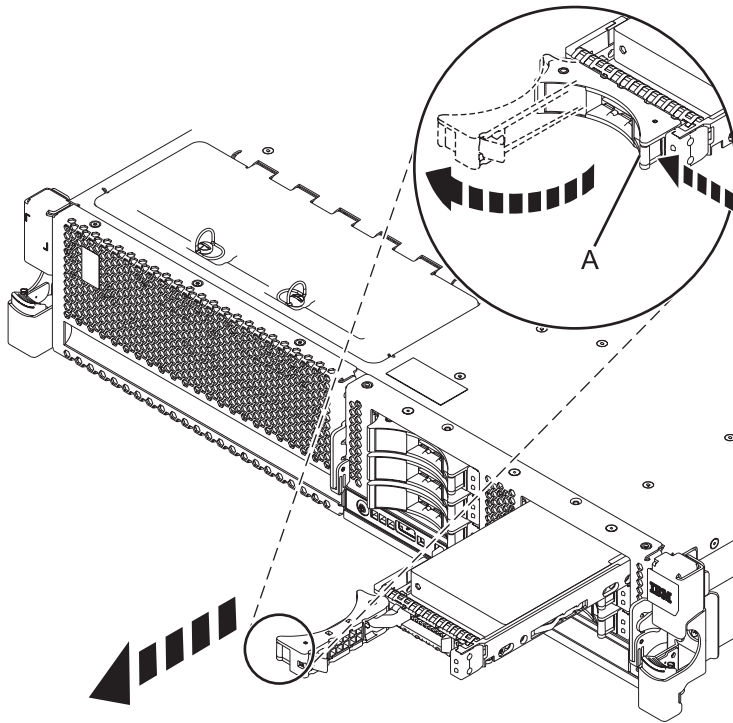

Figure 20. Removing a disk drive from the system
3. When the identify LED turns on solid, unlock the drive handle by squeezing it and pulling it out toward you, as shown in Figure 20 on page 34. If the handle is not all the way out, the disk drive or solid-state drive cannot slide out of the system or out of the expansion unit.